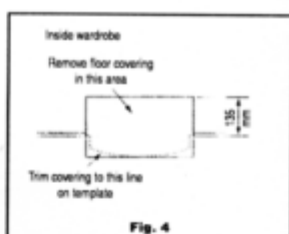

Fig. 4
4.6 Trim the floor covering from the inside the wardrobe or panel to a depth of 135mm from the front (see fig 4). If the floor covering is not wanted behind the installation box remove as required. Also trim the floor covering in front of the panel or to the lines on the template.